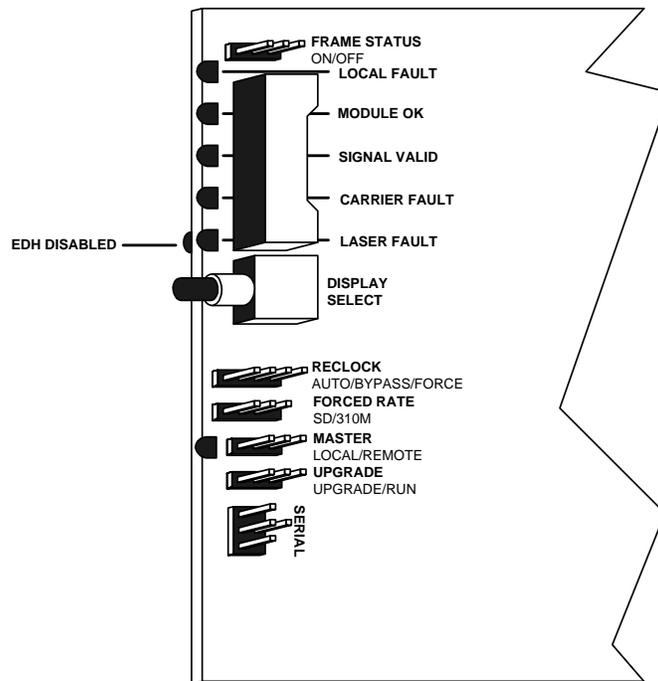

Figure 4-1: Location of Status Indicators and Jumpers
The 7707EO has 6 LED Status indicators and a 4 digit alphanumeric display on the front card edge to show operational status of the card at a glance. The card edge pushbutton is used to select various displays on the alphanumeric display. Figure 4-1 shows the locations of the indicators and pushbutton.
Several jumpers, located at the front of the module are used to preset various operating modes. Figure 4-1 shows the locations of the jumpers.
NOTE 1: The Rev (A) boards have incorrect labeling for the RUN / UPGRADE modes. The jumper labels shown in Figure 4-1 are correct. On Rev (A) boards, for normal RUN operation set the jumper to the UPGRADE position (as shown on the board label - away from the front of the module). For UPGRADE operation the jumper must be set to the RUN position (as shown on the board label - closest to the front of the board).